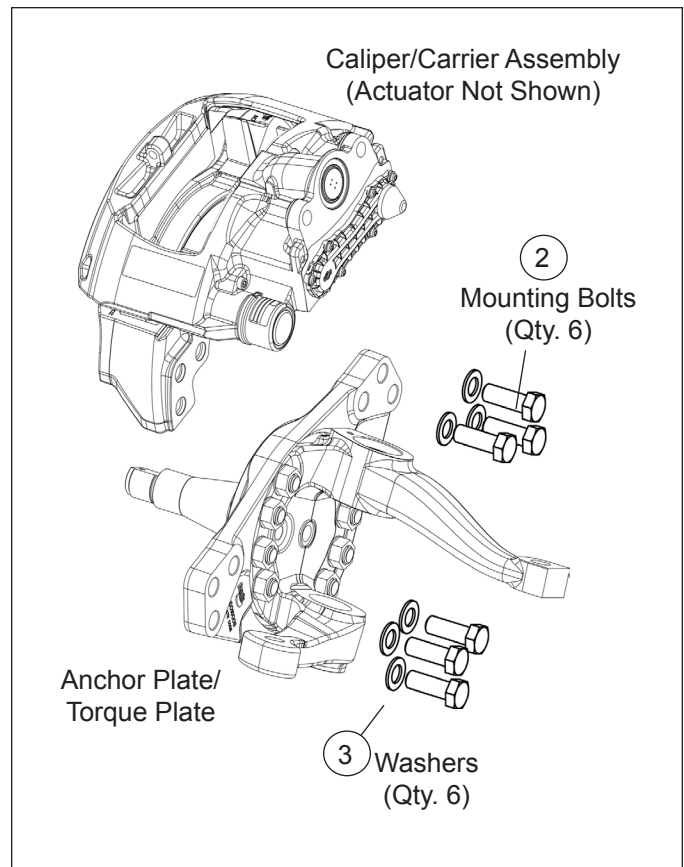

Figure 10 – Axial Mount Caliper/Carrier
1. (See Figure 10). Supporting the air disc brake by necessary means, remove and discard the six bolts (Item 2) and washers (Item 3) attaching the brake to the anchor plate and remove the caliper/carrier assembly from the vehicle.